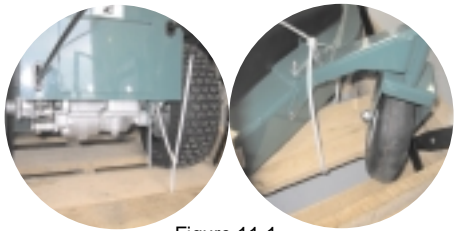

Figure 11-1
1. Cut and remove the nylon retaining straps (see figure 11-1).